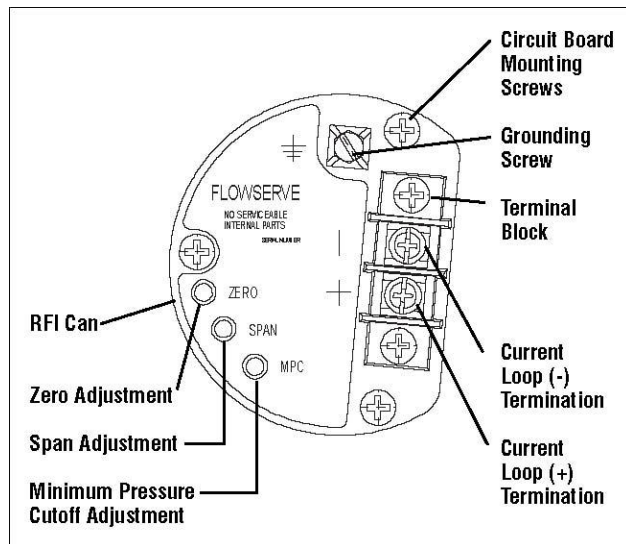

Figure 7: KM82 Circuit Board Module
2. Remove I/P module housing cover. (See Figure 7.)
The APEX W8000 positioner with I/P Transducer has a “Minimum Pressure Cutoff” (MPC) feature, which allows the user to set the positioner. When the input signal falls below a user-adjustable current, the pressure output falls rapidly to approximately 1.7 psi, causing the valve to move to the failure position. This feature is generally used when the service requires a tight shut off or to prevent throttling near the valve seat. To adjust this feature, refer to Figure 7 and perform the following: